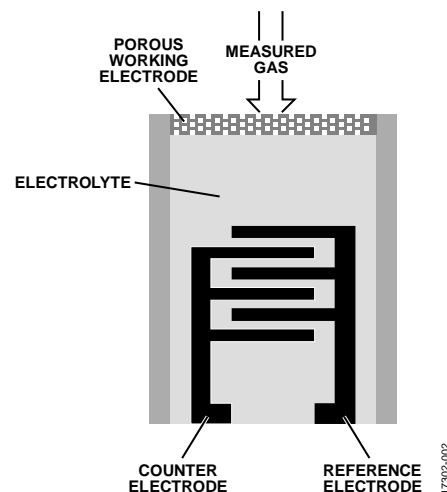

Figure 2. Electrochemical Gas Sensor—Simplified
The fundamental principle of electrochemical gas sensing is measuring the current generated due to oxidation or reduction at an electrode in response to a target gas. Most common sensors have two or three electrodes. Some sensors utilize an additional fourth electrode. In 3-electrode configuration, the electrodes are referred to as a working electrode (WE), also known as sensing electrode (SE), a reference electrode (RE), and a counter electrode (CE). Figure 2 shows simplified diagram of such an electrochemical cell.